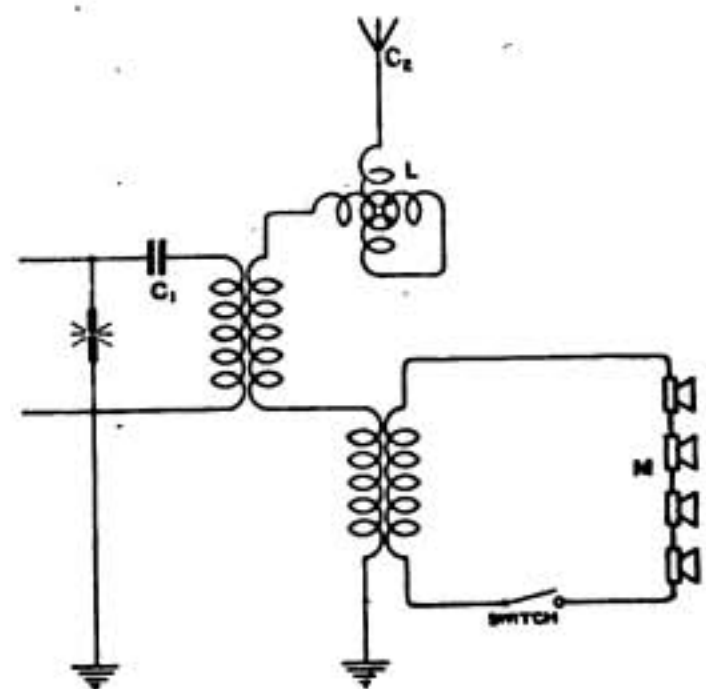

Fig. 2.
4. An inquiry was made at first as to what results could be got by using simple carbon microphones. The method shown in Fig. 2 first suggested by Stone, was adopted, using four Kellogg microphones in series and coupled inductively to the aerial inductance. The coupling and the number of turns on the coils were regulated so that
This is easily seen by observing that when the switch (Fig. 2) is closed, the antenna circuit can, by changing the adjustment of the variometer, be brought back into resonance with the primary circuit, and the original antenna current restored. The functioning of the radiotelephone under conditions of greater or less initial detuning between the primary circuit and the antenna is therefore possible.